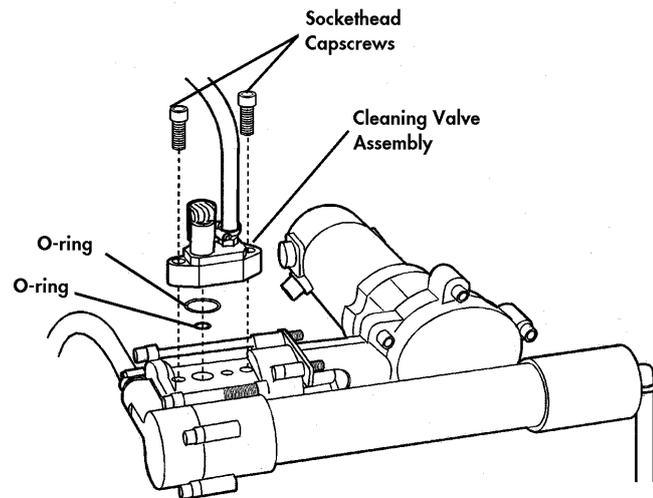

Figure R-9
13. To replace the O-rings beneath the cleaning valve assembly, refer to **Figure R-9**. Unscrew the two socket head cap screws using a 5/32" Allen wrench and remove the assembly from the pump body. Remove old O-rings (8012594) and (8012697) and replace them with new O-rings from the RSK. Replace the cleaning valve assembly on the pump body and install the two cap screws. This completes the procedure for reassembly of the watermaker. When operation is commenced again, carefully inspect the watermaker for proper operation and any leaks or other signs of incorrect assembly.